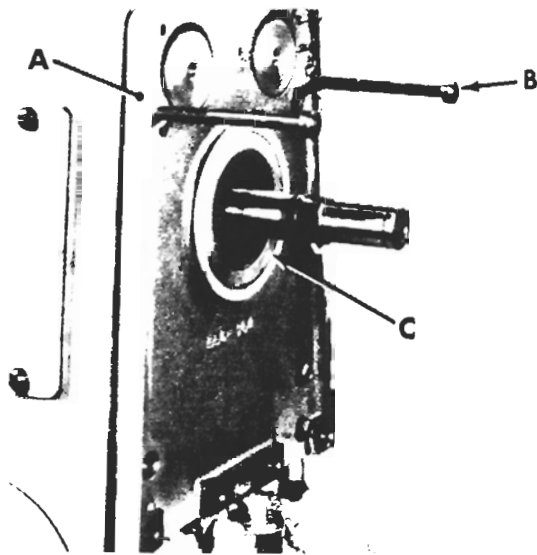

Figure 21
14. Turn top guard bolts (B, fig. 21) into back plate (A) until guard is pushed away from column. Carefully remove back plate and oil cover (C). **IMPORTANT:** Do not allow oil to drain on pulleys or belts.